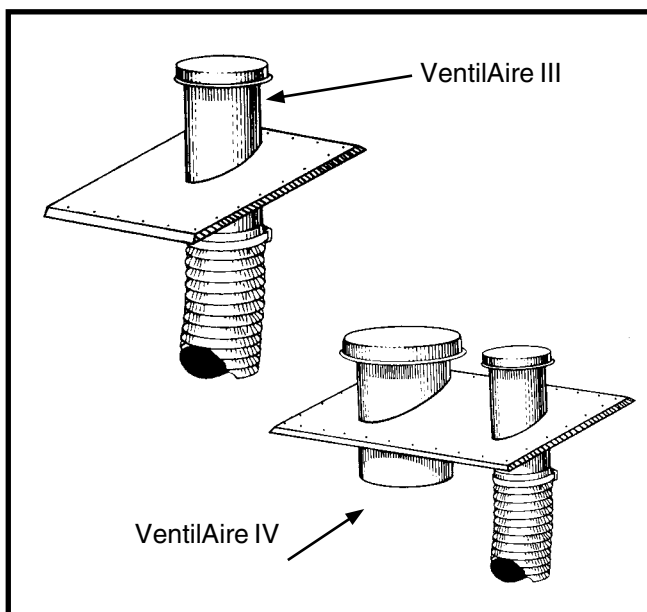

Figure 5. VentilAire III & IV
The VentilAire air quality packages are available to meet the ventilation requirements as outlined in H.U.D. Standard Part 3280.103 (b) (2). These packages introduce outdoor air into the living space during furnace blower operation. The VentilAire IV also serves to exhaust moist and/or hot air from the attic space. See Figure 5 for typical installation. Complete installation instructions are supplied with each air quality package.